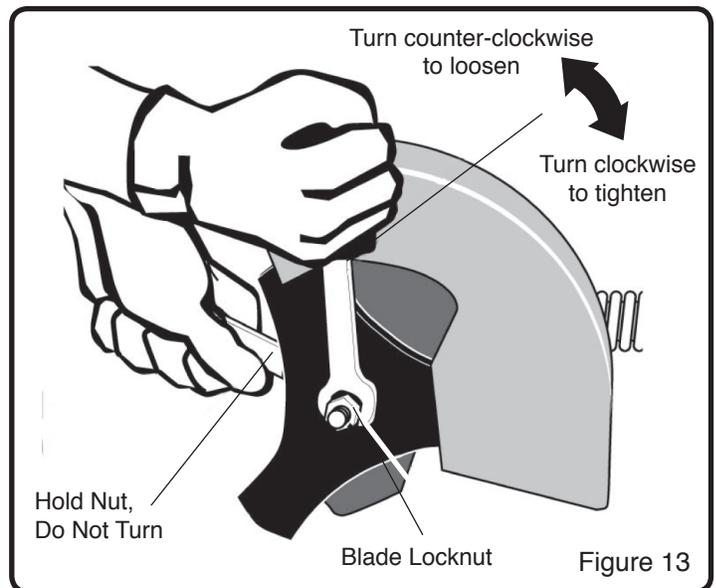

Figure 13
**NOTE:** Replacing the blade requires two (2) 12" adjustable wrenches, or two (2) 3/4 in. [19mm] wrenches.
3. Remove the blade locknut that holds the blade to the drive shaft. (See Figure 13)
To remove or tighten the blade locknut, always use the method shown in Figure 13. Always position the holding wrench on the nut behind the blade.